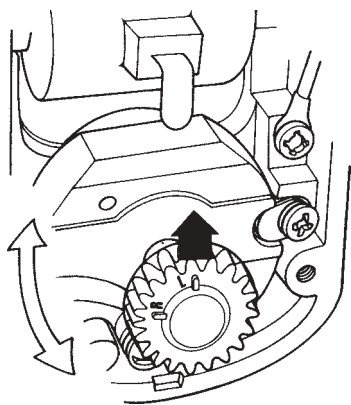

Figure 7.14
- B. Align the "L" or "R" (depending on the rotation of the magneto - look at data plate) on the rotor gear so that it points up, toward the high tension lead of the coil. Secure rotor shaft to prevent rotation during assembly. Alignment of rotor gear is critical. See Figure 7.14.)